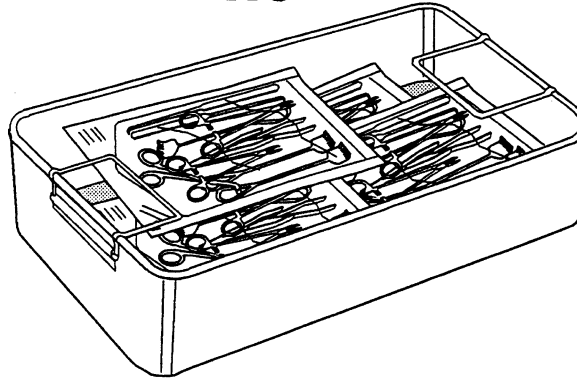

Figure 7.
- d. Do not place handfuls of instruments into paper/plastic peel pouches or water repellent nonwoven disposable wrappers to separate and arrange them within an instrument set. This, too, can be the cause of pooling condensation and can prohibit sterilization (Figure 7).